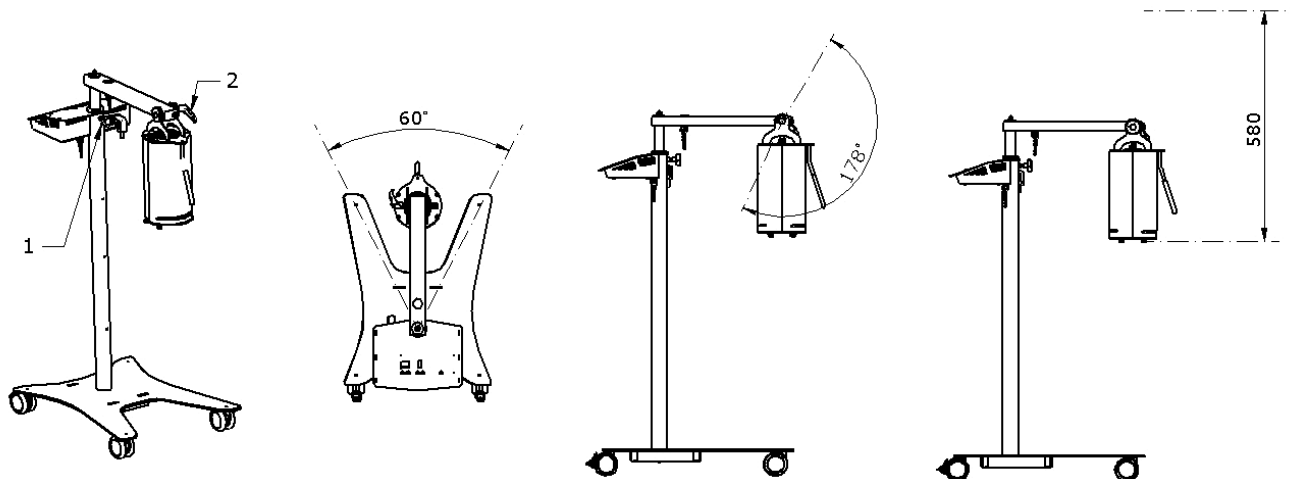

Figure 9 - Adjusting the position
After start-up, place the unit in the correct position for irradiation relative to the patient's body. The first step is to set the correct height with the help of a knob placed on the bottom of the lamp stand (fig. 9 item 1). In addition, you can adjust the rotation angle of the tube relative to the tripod axis in the range of 60°. After adjusting the height, you can set the angle of the tube in the range of 178°. To do this, grasp the handle on the tube (fig. 9) and use the other hand to unlock the tube using the handle knob, located on the side of the tripod (fig. 9 item 2). After completing the adjustment, lock the joint by tightening the knob.